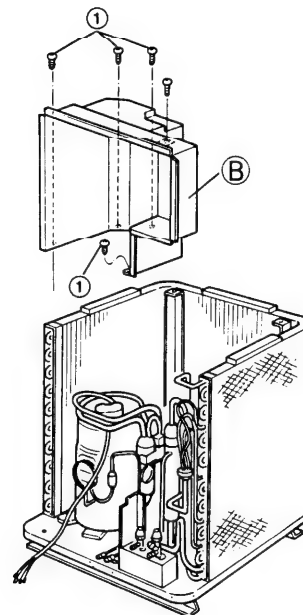

Fig. 16
- ① Remove the four screws ① fixing the cover (B) and lift the cover (B) to remove it. Fig. 16